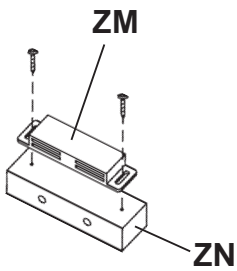
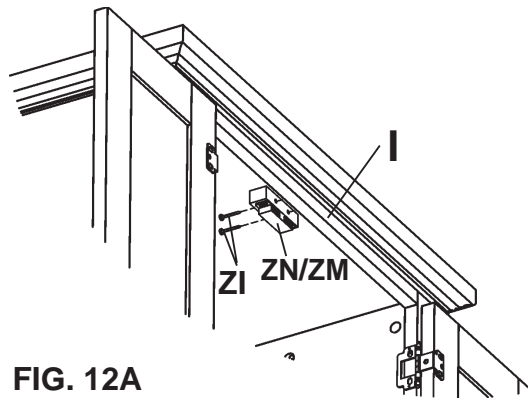

FIG. 12
FIG. 12A
- 12)** Attach a Double Magnetic Catch (ZM) to the Catch Spacer (ZN) using the screws, contained in the kit, in the prepunched holes in the spacer. See FIGURE 12. Center the Catch Spacer (ZN) behind the upper Sleeper (I) so that only the double magnetic catch is showing. Attach the spacer to the sleeper with #7 x 1½" Black Pan Head Screws (ZI) through the predrilled holes in the spacer. See FIGURE 12A.